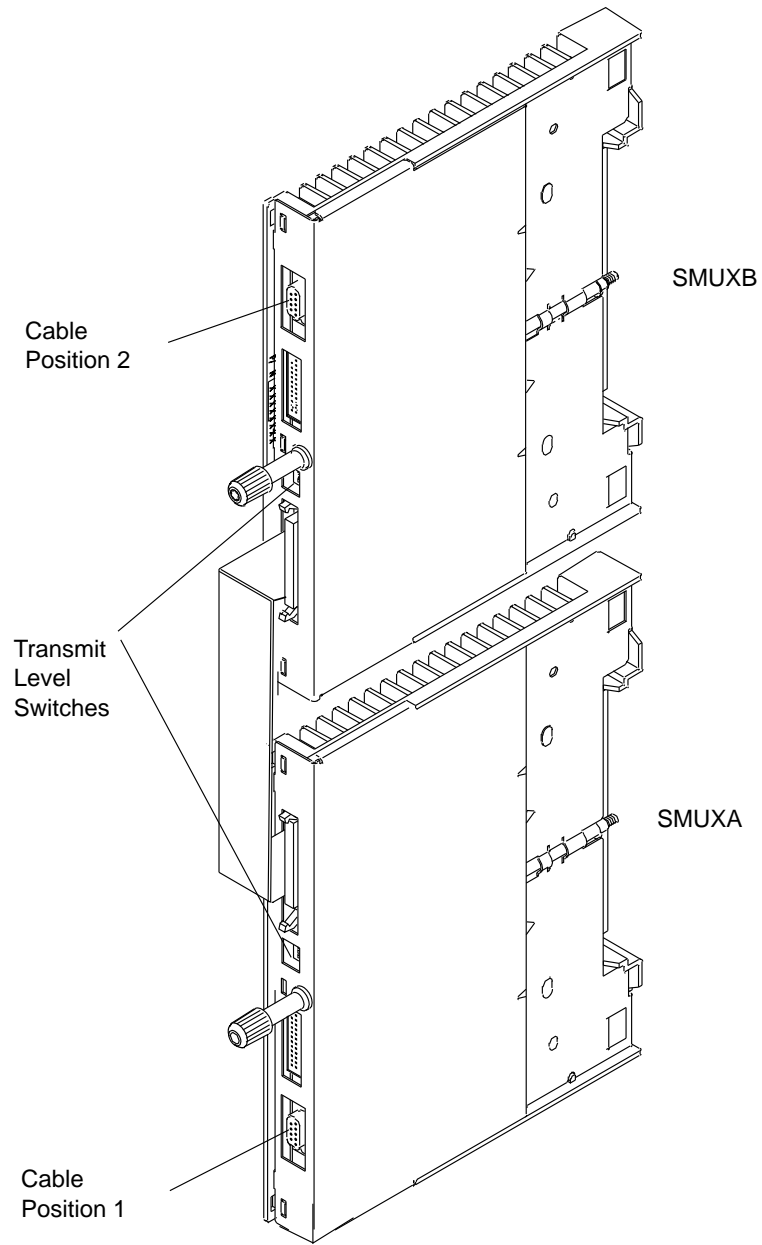

Figure 7-3. SMUX Cards
Step 3. \_\_\_\_ Locate the SMUX card in column B of each LIB2 board (see Figure 7-3 on page 7-3). On each SMUXA/SMUXB card installed, locate the transmit level switches.